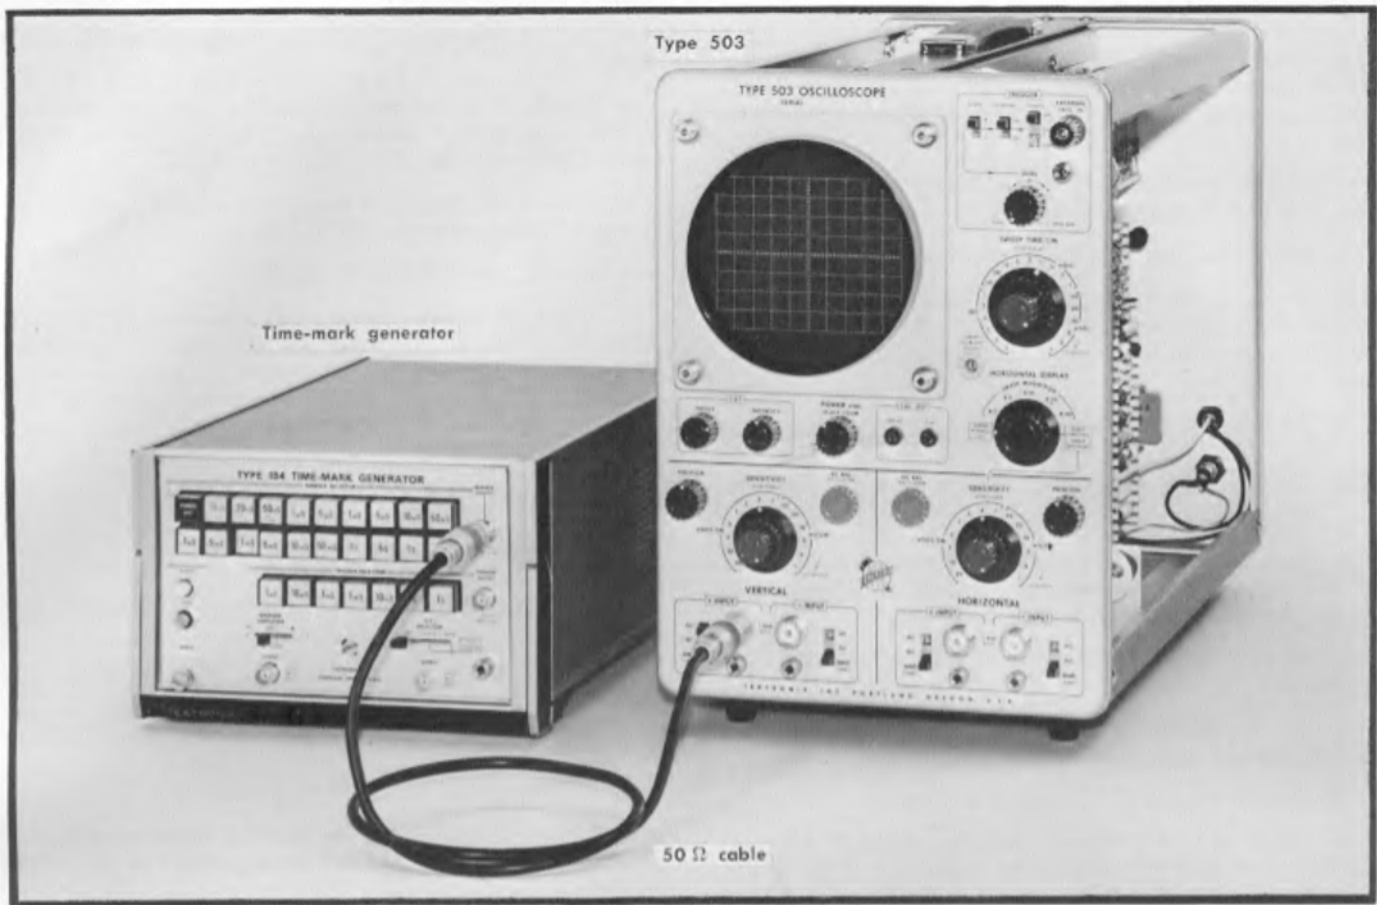

Fig. 6-29. Test setup for sweep timing adjustments.
- a. Test setup is shown in Fig. 6-29.
- b. Set the time-mark generator (item 7 of Recommended Equipment) to supply 1-millisecond markers.